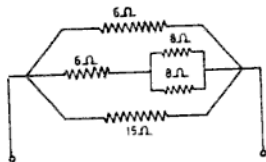

Fig. NE 3.22
- 3.22 Calculate the equivalent resistance of the circuit shown in Fig. NE 3.22. (Ans. 3  $\Omega$ )